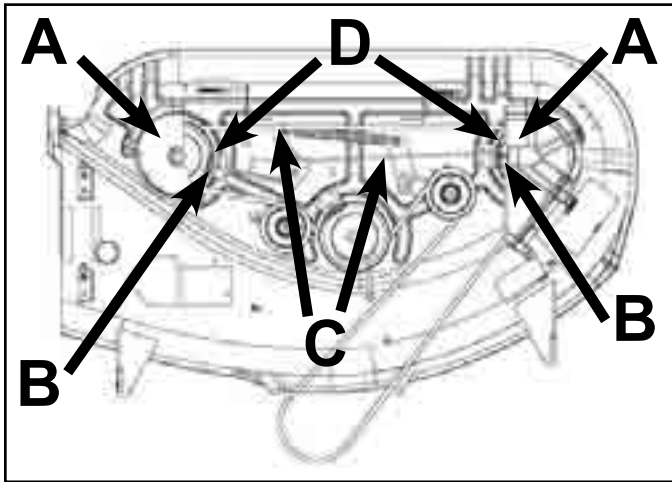

Fig A6 003
3. Check the clearance between the brake pads on the brake arm assemblies on the right and left mower drive pulleys. They should be set between .06" – .12" (1.5mm – 3.0mm) away from the deck pulleys (Fig. A6 003).